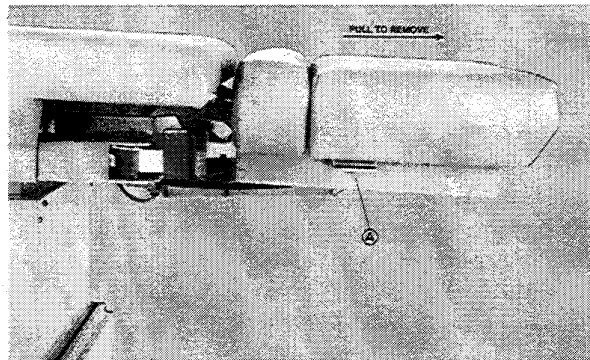
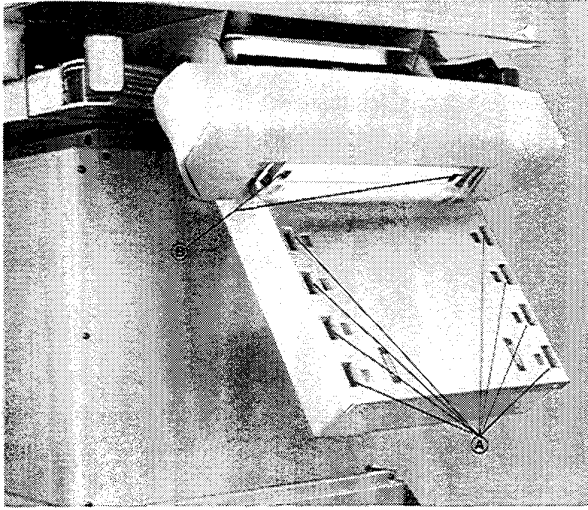
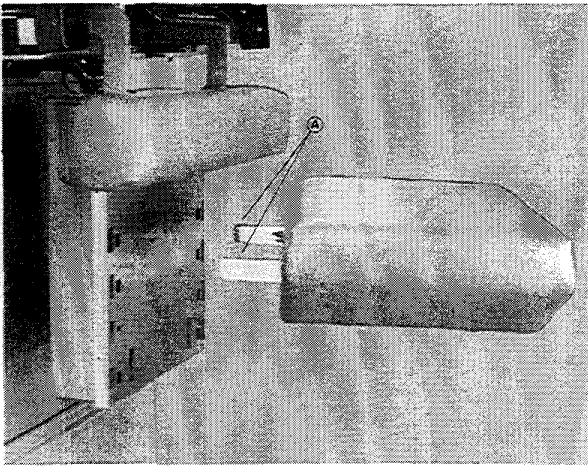

Fig. 4
Fig. 5
Fig. 6
PROCTO KNEE REST: The stored position of the procto knee rest is illustrated in Fig. 4. To remove the knee rest, lift levers (Fig. 4, Item #A) on each side of knee rest. This releases the locking mechanism allowing for removal of knee rest.
The foot/leg section provides four (4) procto knee rest positions (Fig. 5, Item #A). To install the knee rest into either of these positions, align the metal guides (Fig. 6, Item #A) with slots (Fig. 5, Item #A) and insert until you hear the mechanical locking device engage.
Removal of the knee rest from a procto position is the same as removal from the stored position. Lift levers (Fig. 4, Item #A) on each side of knee rest. To return the knee support to its stored position, align metal guides (Fig. 6, Item #A) with slots (Fig. 5, Item #B) and insert until you hear the mechanical locking device engage.